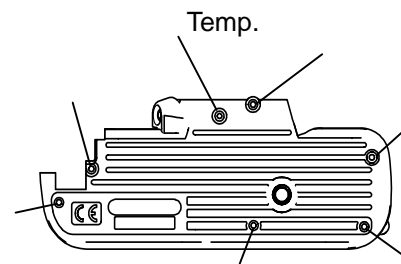

Fig.141
- 1) Tighten 8 screws in the numerical order ( , , , ... ) as shown in Fig.141. (The first screw “ Temp.” is installed temporarily.)